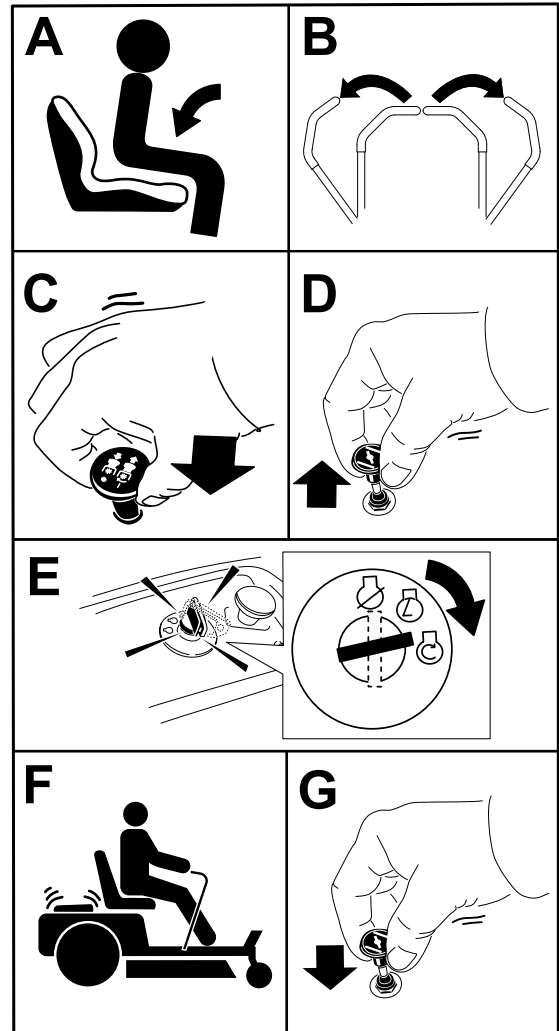

Figure 24
1. Disengage the blades by moving the blade-control switch to the OFF position (Figure 24).